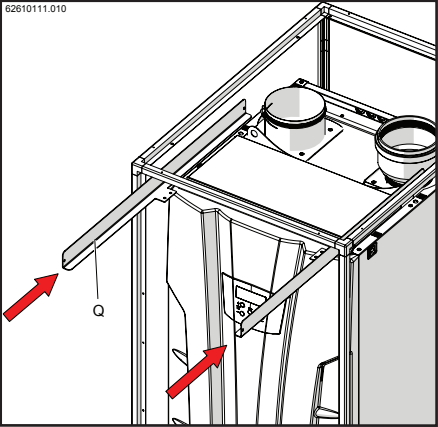
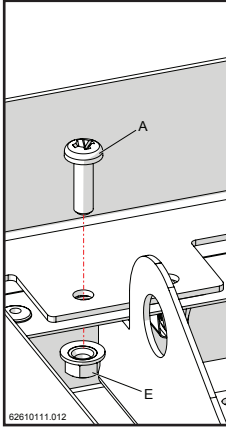
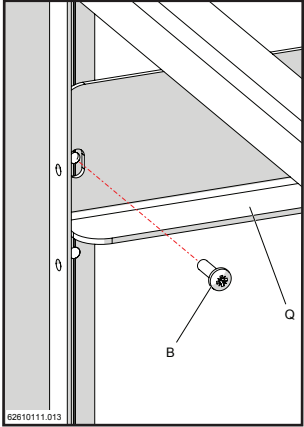

Figure 15-43
Figure 15-45
Figure 15-46
- 7.- Insert the upper fixing rods "Q" (figures 15-43 and 15-44). Then put in screw "A" with nut "E" for fastening the rods to the boiler (figure 15-45) and screw "B" for fastening the rods to the framework of the external cover (figure 15-46).